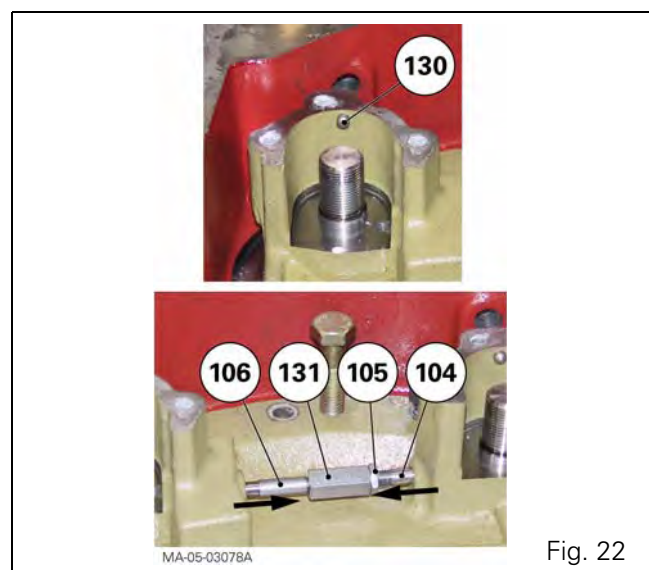

Fig. 22
46. Check the interlock mechanism is in position and retighten the rods (104) and (106) to their maximum tightness (Fig. 22).
47. Fit the four switch thrust pins (130) using a bit of grease to hold them in position (Fig. 22).
48. In the cover (6), fit the bearing cones (3), (8) and (114) smeared with grease to hold them in position. Also fit:
49. Put the cover back on (6).